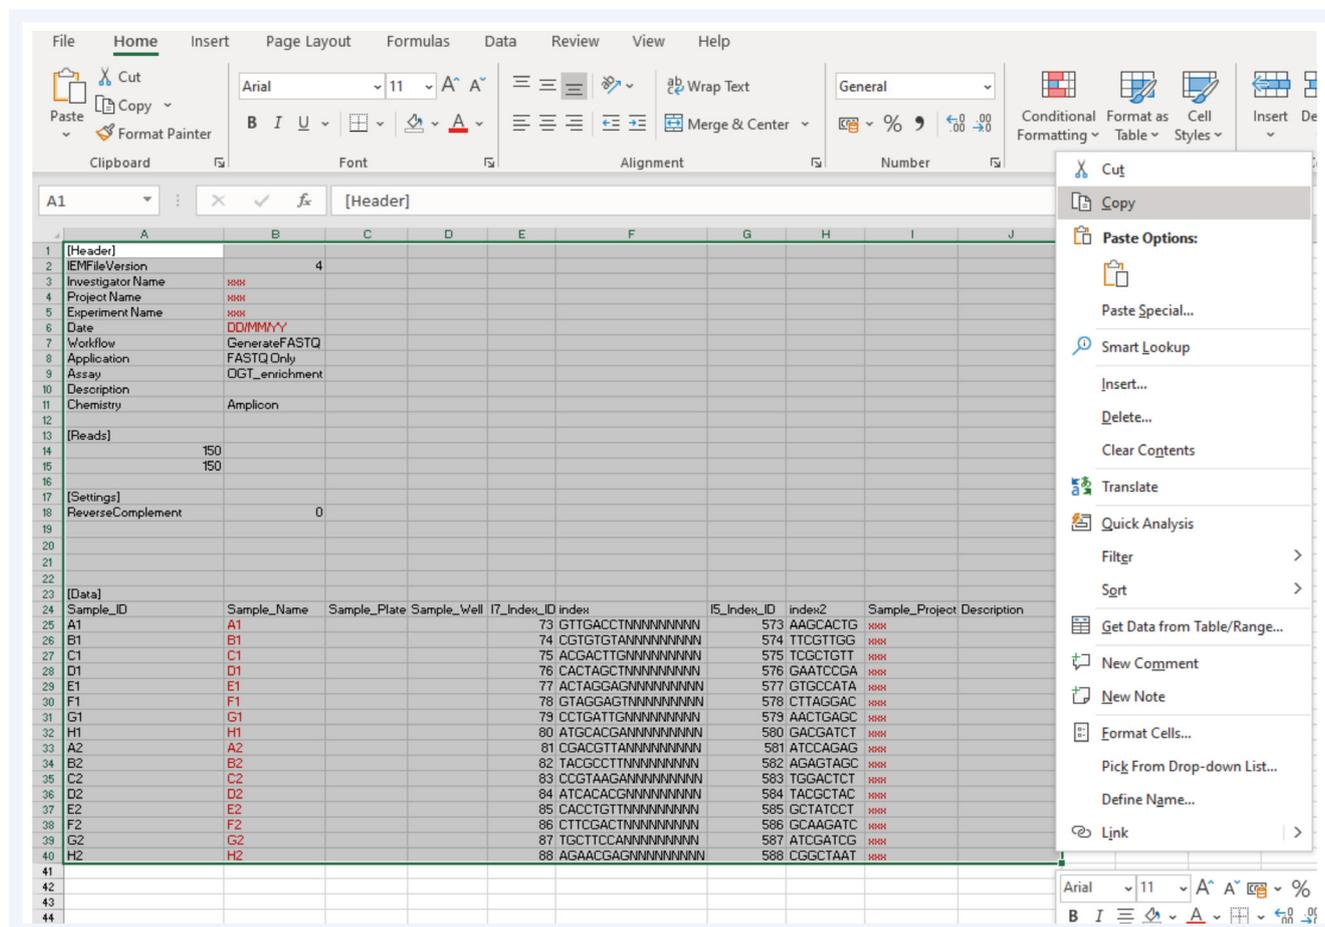

Figure 8: Example Sample Sheet on the MiSeq pooling template.
- Highlight all cells with text as shown in Figure 8. Adjust the number of rows highlighted as appropriate.